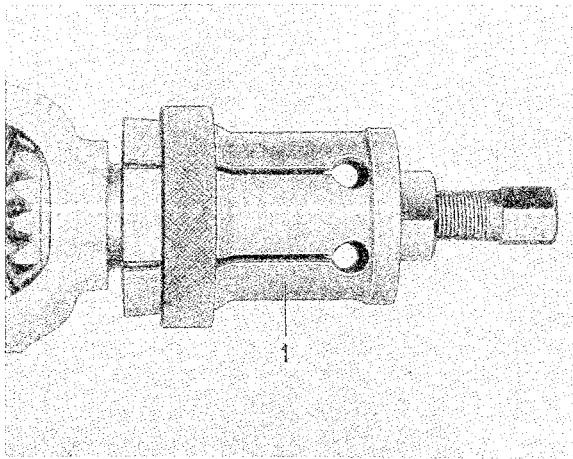

Fig. 4-147. Removal of differential carrier bearings
1. Pull off the differential carrier bearings with puller 2483, see Fig. 4-147. Take care of the shims.